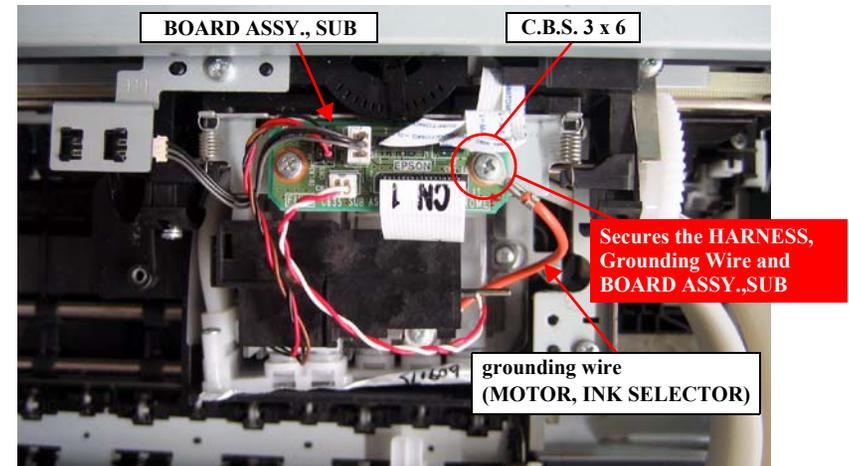

Figure 4-85. Removing the BOARD ASSY., SUB
14. Remove the screw that secures the grounding wire of the (MOTOR, INK SELECTER) to the BOARD ASSY., SUB. *See Figure 4-85.*